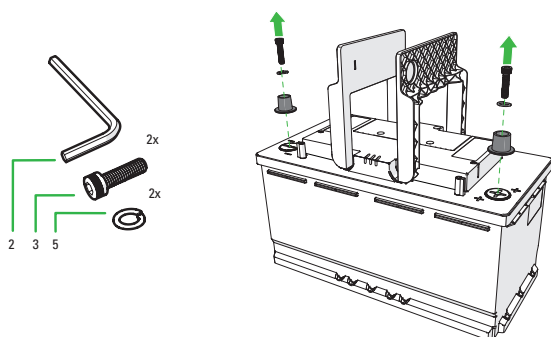

Figure 3.
1. Remove the automotive power terminals. (Figure 3)